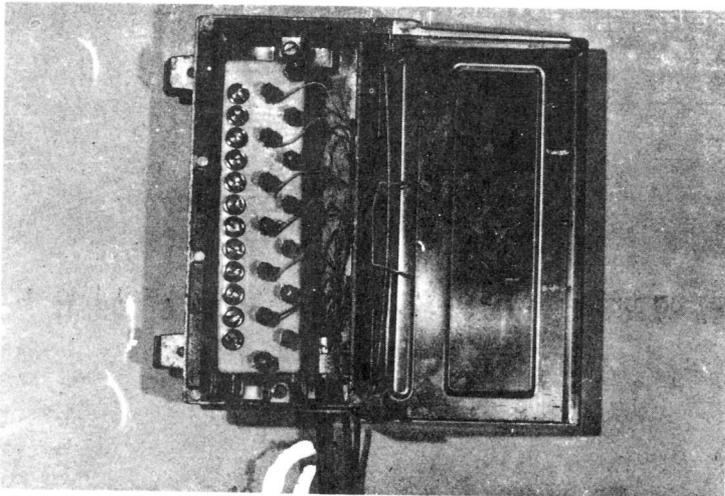

FIGURE 13
7.35 Terminate the conductors as shown in Figure 13 from top to bottom beginning with the White-Blue pair on the top lugs and ending with the Red-Blue pair on the bottom lugs. See Figure 13.